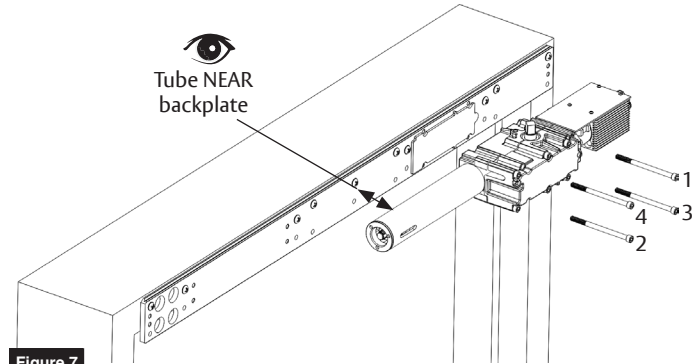

Figure 7
1. Using four (4) screws, install closer body to backplate. (Figure 7)
**Note:** Screws must be tightened in a cross pattern until all four (4) screws are tight. (Figure 7)
**NOTE:** Closer body is in proper orientation for PUSH SIDE application when tube is NEAR backplate. (Figure 7)